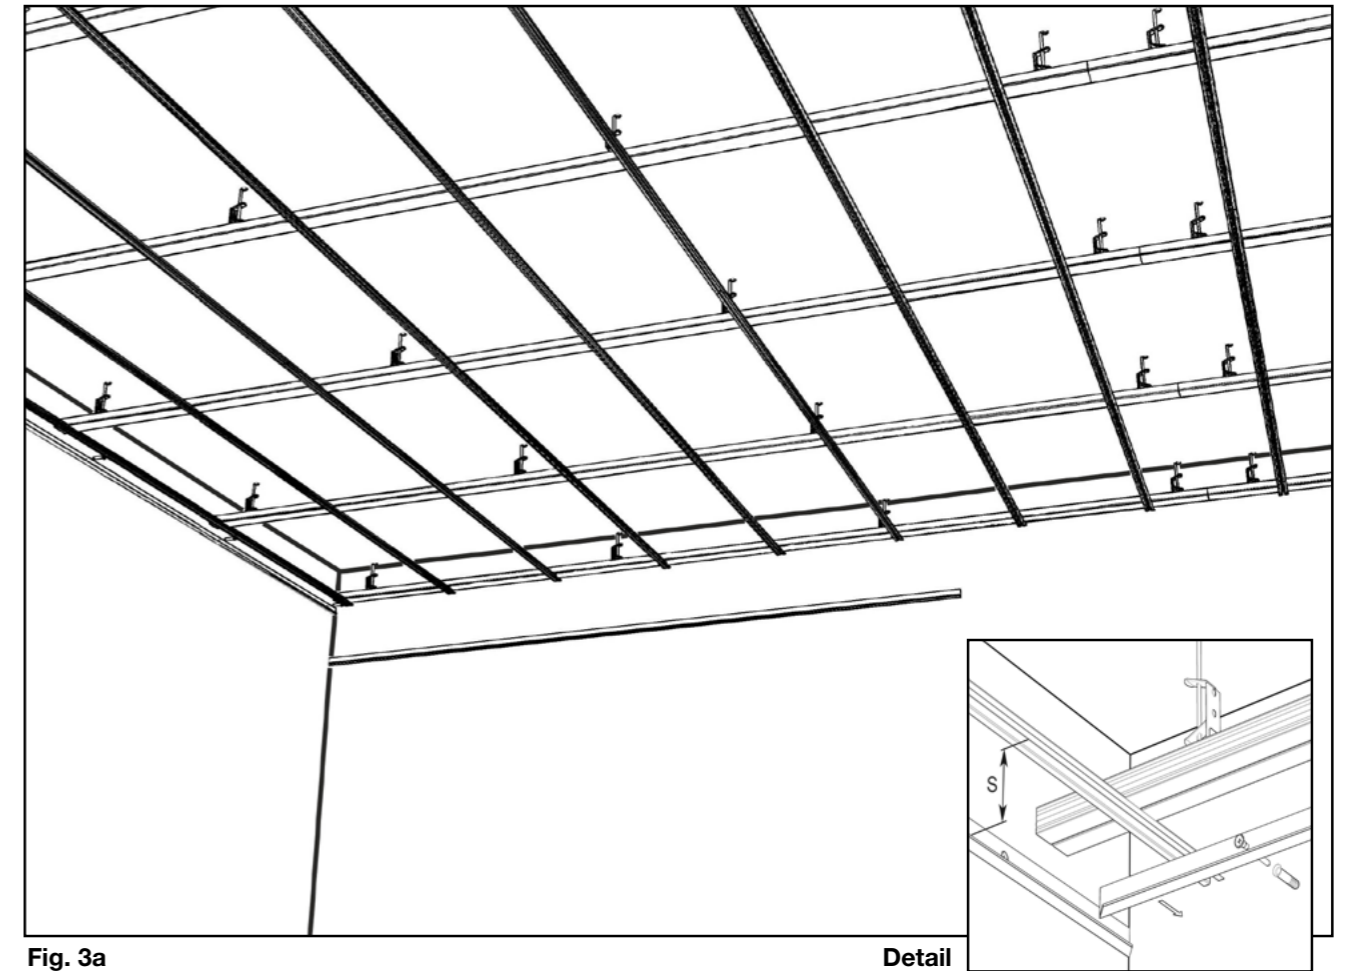

Fig. 3a
**Fig. 3a** shows the wall connection bracket mounted deeper by the thickness **S** of the acoustic element. Alternatively, a shadow gap can also be used for the end finish to the wall. Applies to all Acoustic variants.